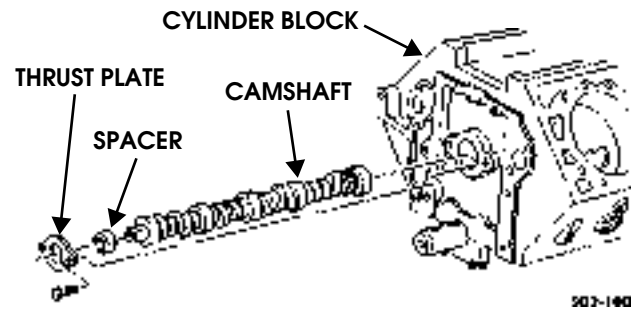

Figure 2-95: Camshaft Removal
1. Remove thrust plate and spacer (Figure 2-95).